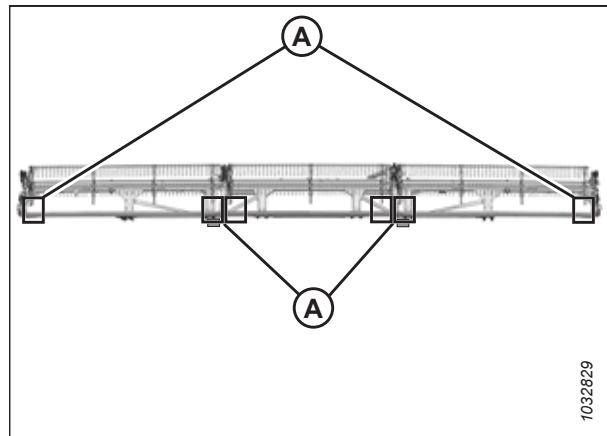

Figure 4.284: FlexDraper® Measurement Locations – Triple Reel
- Triple-reel headers: Figure 4.284, page 436